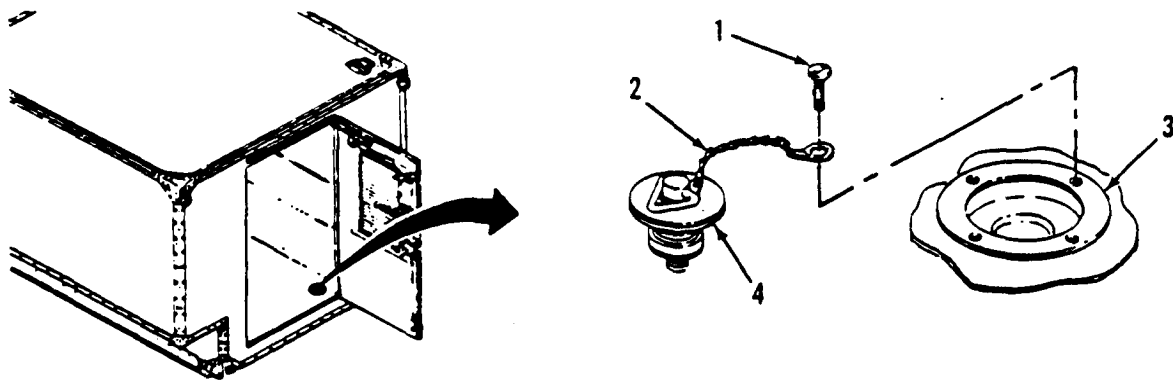

Figure 3-16. Drain Plug Replacement.
**Replace.** (Figure 3-16)
- (1) Remove screw (1) attaching drain plug chain (2) to cover (3).
- (2) Pull plug (4) out of drain.
- (3) Install plug (4) firmly in drain.
- (4) Dip screw (1) in sealer and attach tab of chain (2) to cover (3).